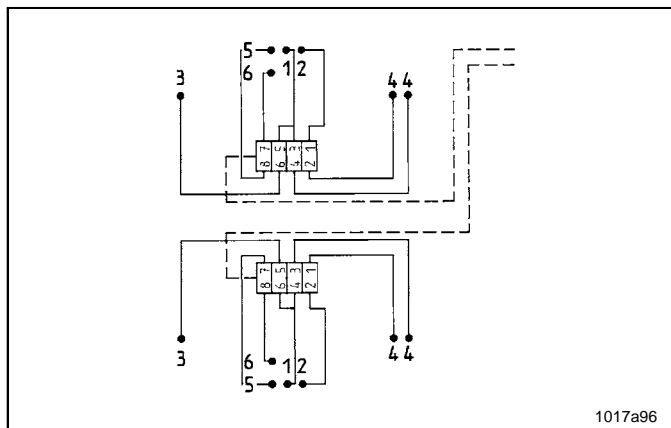

Fig. 36 Allocating the lubrication points
- Close the outlets which are not required (see Fig. 36, outlet 5 or 6), **except for outlets 1 and 2**.